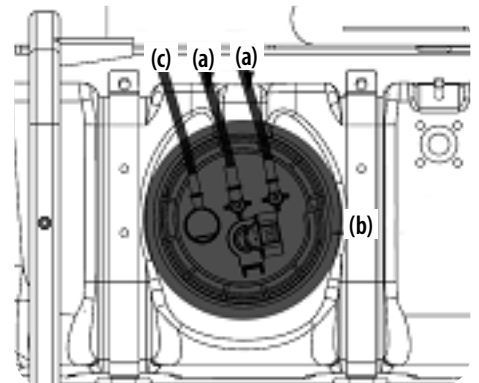

Figure 5-31
3. There are two main lines (a) coming into the primary fuel filter (b) and one main line (c) exiting the primary fuel filter (b). See Figure 5-31.